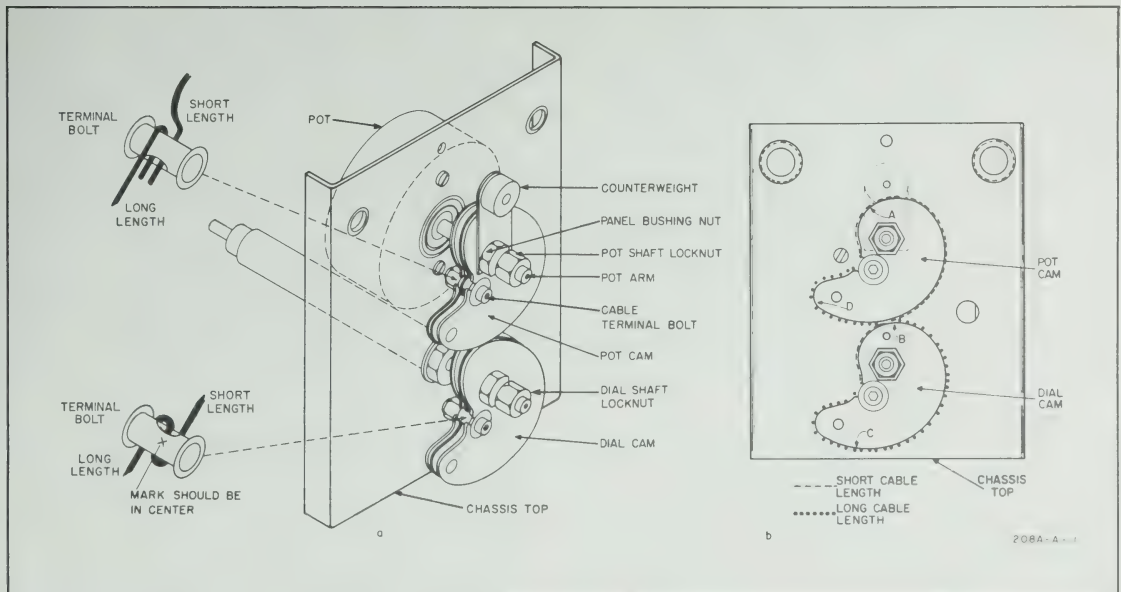

Figure 5-3. Cams and Cable Relationship
i. Install the new pot. Orient cams as shown in Figure 5-3. Reverse steps a through g. (The shorter cable length should pass over points A and B; the longer length should pass over points D, B and C.